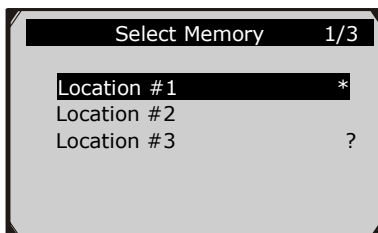

Figure 5.22
- 5) Use the **UP/DOWN** scroll button to select a memory location and press the **OK** button.( Figure 5.22)